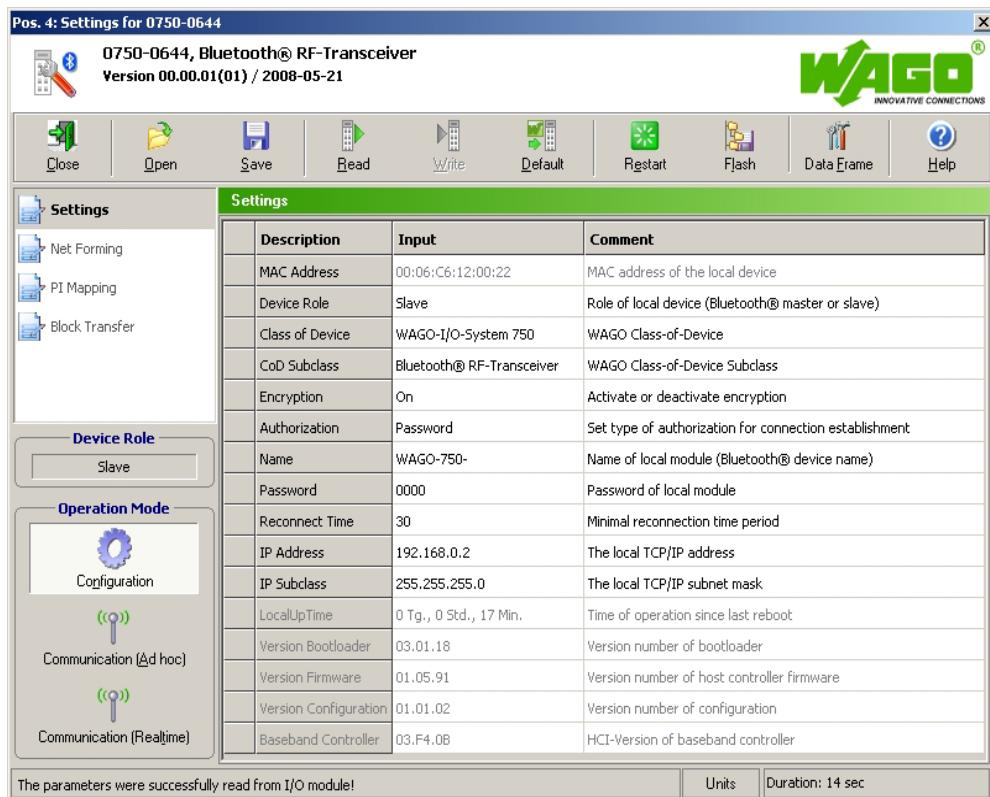

Figure 46: Bluetooth®-specific parameter area
4. In the module's context menu, choose **Settings**. This opens the *Bluetooth®*-specific parameterization dialog of the module (see Figure 46).